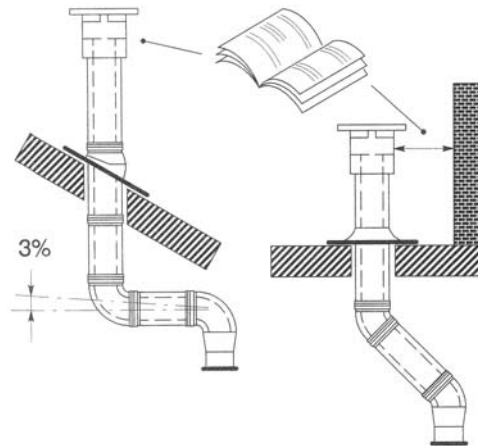

Figure 1
**Termination Location / Installation:** Figure 1